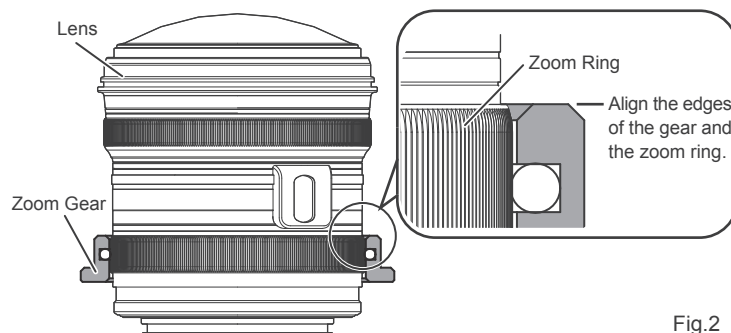

Fig.2
- Slide the gear forward until it completely covers the zoom ring on the lens (Fig.2)